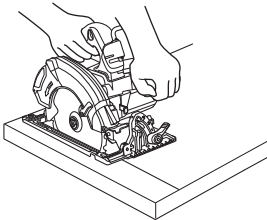
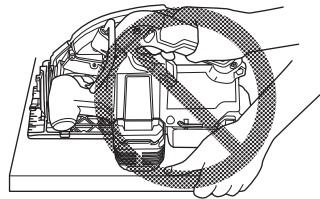

Fig. 2
Fig. 3
4. Place the wider portion of the saw base on that part of the work piece which is solidly supported, not on the section that will fall off when the cut is made. As examples, Fig. 2 illustrates the **RIGHT** way to cut off the end of board, and Fig. 3 the **WRONG** way. If the work piece is short or small, clamp it down. **DON'T TRY TO HOLD SHORT PLACES BY HAND!**